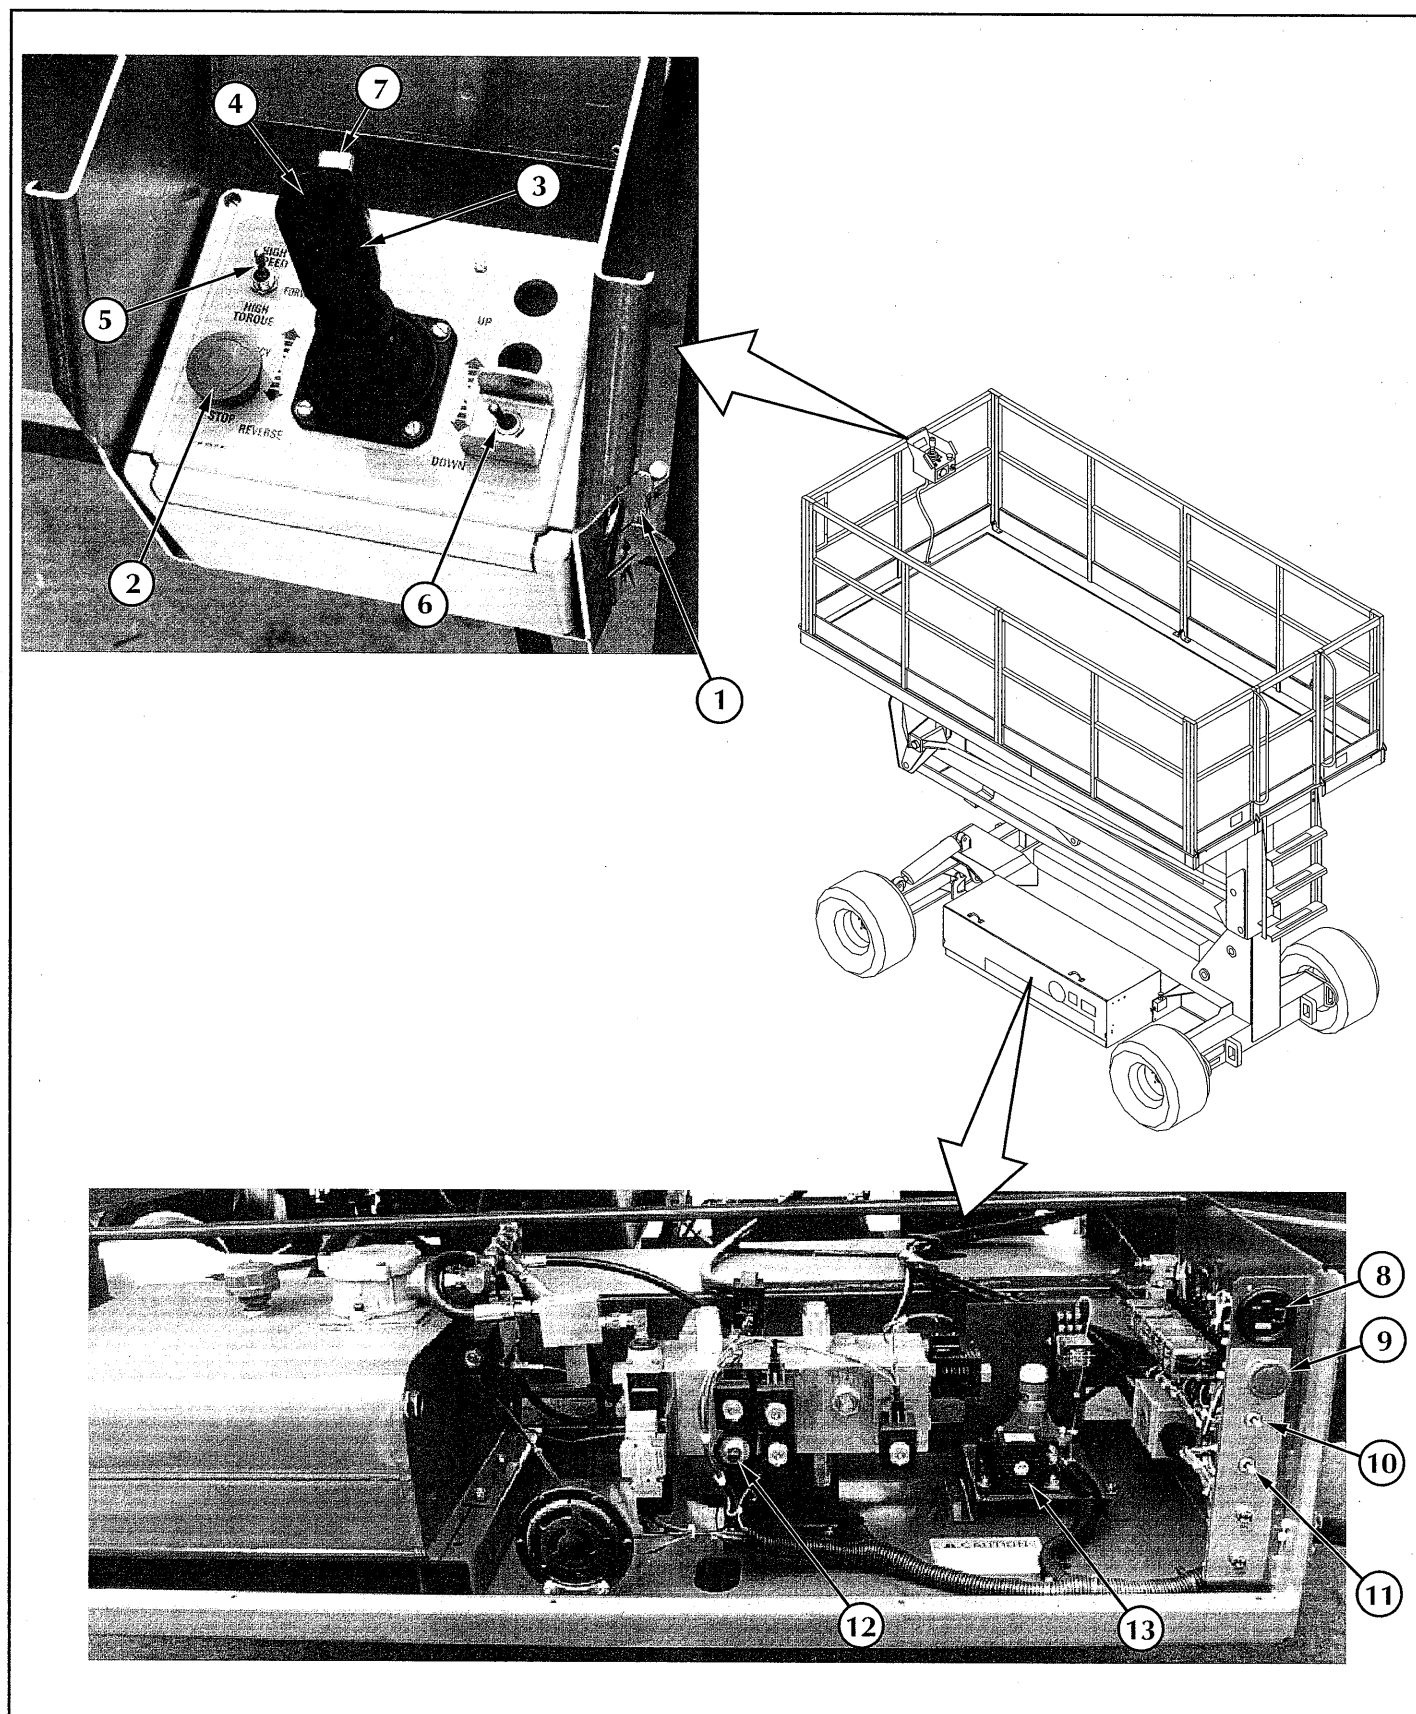

Figure 3-1: Controls and Indicators
The controls and indicators for operation of the SL26/30RT Work Platform are shown in Figure 3-1. The name and function of each control and indicator are listed in Table 3-1. The index numbers in Figure 3-1 correspond to the index numbers in Table 3-1. The operator shall know the location of each control and indicator and have a thorough knowledge of the function and operation of each before attempting to operate the unit.
1. Open the Emergency Lowering Valve by pushing in and turning the knob counterclockwise approximately $\frac{1}{4}$ turn, the knob will pop out disengaging detent (see Figure 3-1).